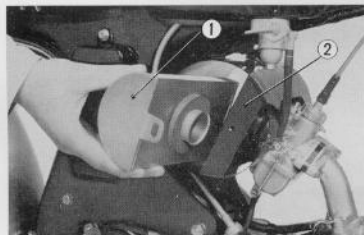

Fig. 4.68 Removing air cleaner (S 90)
3. Remove the air cleaner connecting tube clamp from at the cleaner end through the air cleaner connecting tube groove. Free the air cleaner element by pushing toward the rear and when disengaged from the tube, slide the element ① out of the case. (Fig. 4.68)